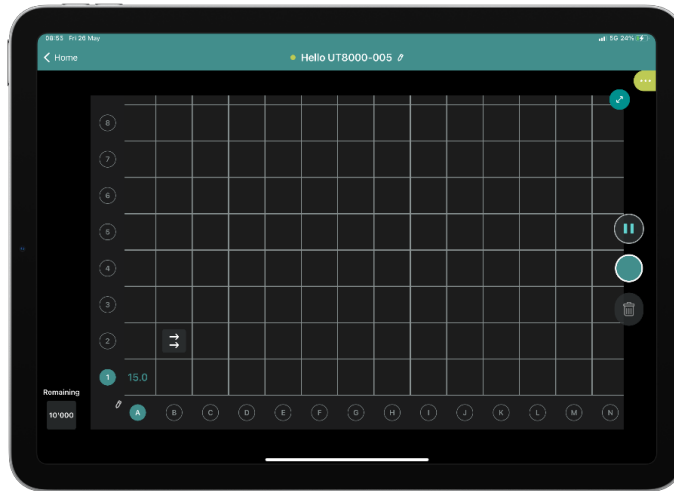

Figure 41: Grid sizing
In case the dimension of the grid is exceeding the screen you simply need to scroll, with one finger, up/down or left/right to move it. Once you select a cell, the equivalent letter and number are highlighted on the screen to better identify the position inside the grid. In the figure 41 you see the number 1 and the letter A marked in blue.
- Move the encoder for the distance selected. On your screen you will see the encoder icons (see figure 41)